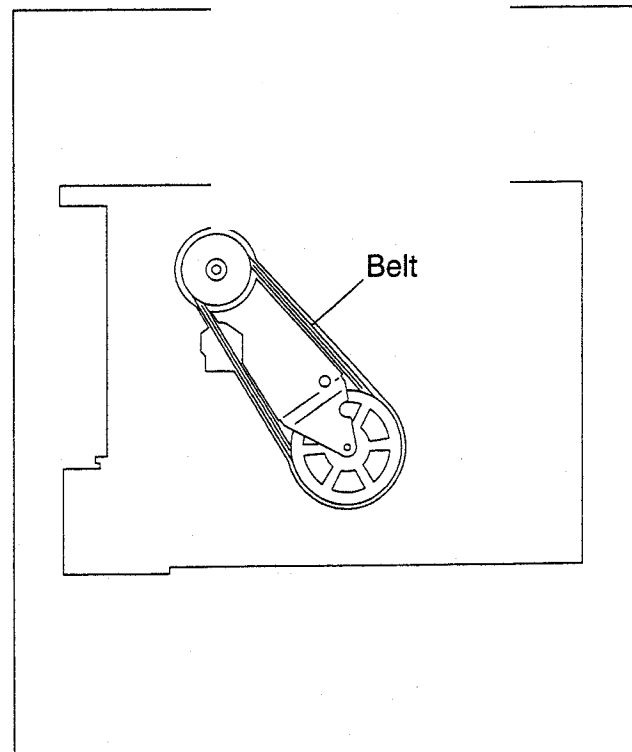

Fig.2-5-10
- (1) Take out 1 slit washer, then remove the lever assy.
- (2) Disengage the belt(capstan motor) from bottom of mechanism assy first as indicated in Fig.2-5-10.